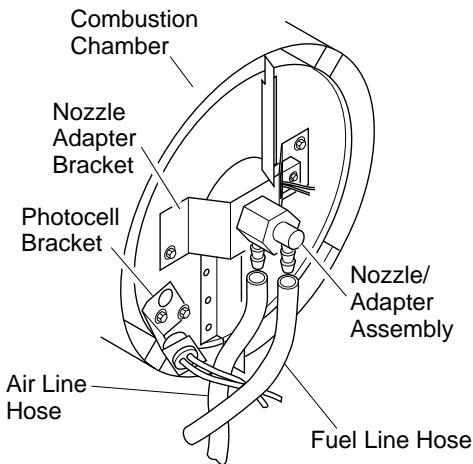

Figure 17 - Removing Air and Fuel Line Hoses (35/50/70,000 Btu/Hr Models Only)
14. Replace photocell in photocell bracket. Route wires as shown in either Figure 17, 18, or 19, page 11.
3. Remove fuel and air line hoses from nozzle assembly (see Figure 17, 18, or 19).
4. Inspect fuel and air line hoses for cracks and/or holes. If fuel line hose is damaged, disconnect from nozzle adapter (see Figure 17, 18, or 19) and from fuel filter (see page 8). If air line hose is damaged, disconnect from nozzle adapter (see Figure 17, 18, or 19) and from barb fitting on pump end cover (see Figure 22).
5. Install new air and/or fuel line. Attach one end of air line hose to barb fitting on pump end cover (see Figure 22) and the other end to nozzle adapter (see Figure 17, 18, or 19). Attach one end of fuel line hose to fuel filter (see page 8) and the other end to nozzle adapter (see Figure 17, 18, or 19).
For 35/50/70,000 Btu/Hr model heaters, route air and fuel lines approximately as shown in Figure 17.